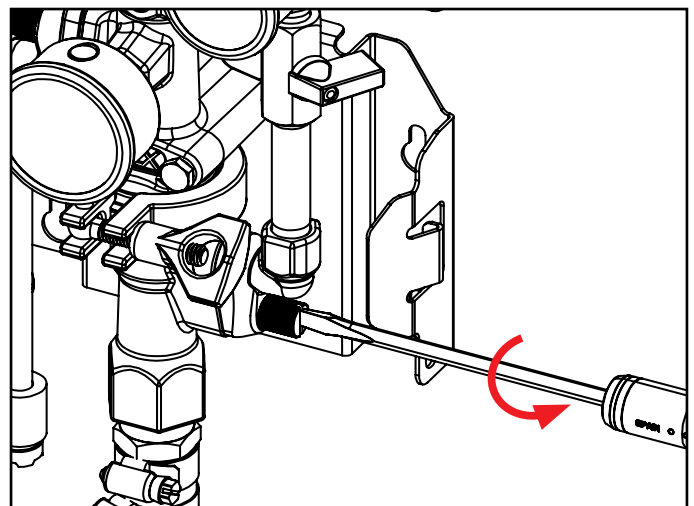

Fig. 10.2: Loosening thumb screw on elbow (foamer air inlet)
3. Loosen the thumb screw on the elbow by hand or using a flathead screwdriver. [Fig 10.2]